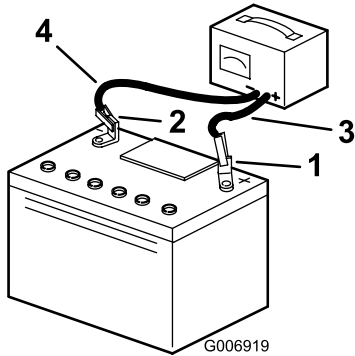

Figure 11
- When the battery is fully charged, unplug the charger from the electrical outlet, then disconnect the charger leads from the battery posts (Figure 11).